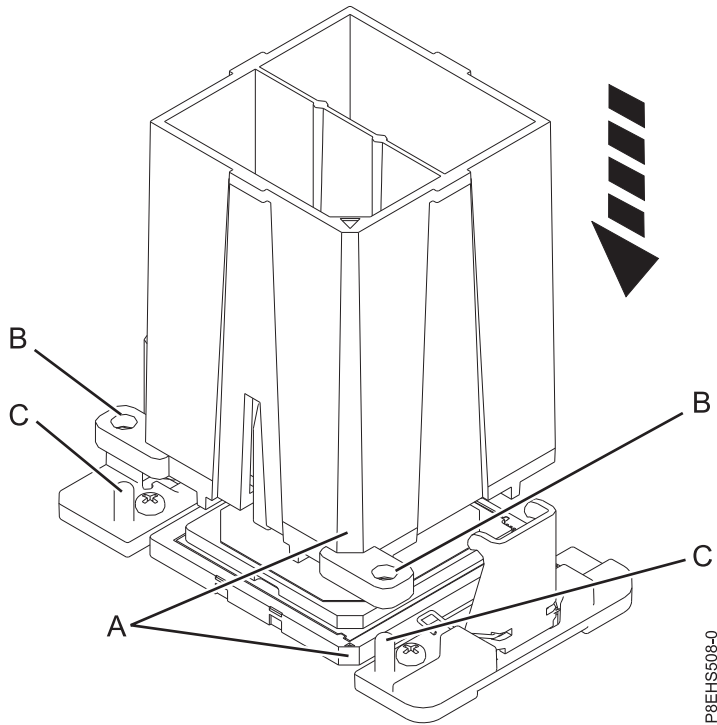

Figure 91. Lowering the removal tool onto the system processor module
- a. Using the supplied removal tool (part number 01AF101), align the beveled corner **(A)** of the tool over the beveled corner of the system processor module as shown in Figure 91 on page 81.